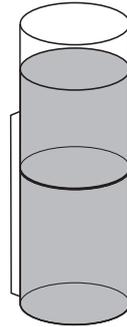

Fig. 2
- the filter needs to be changed! (Fig. 2)